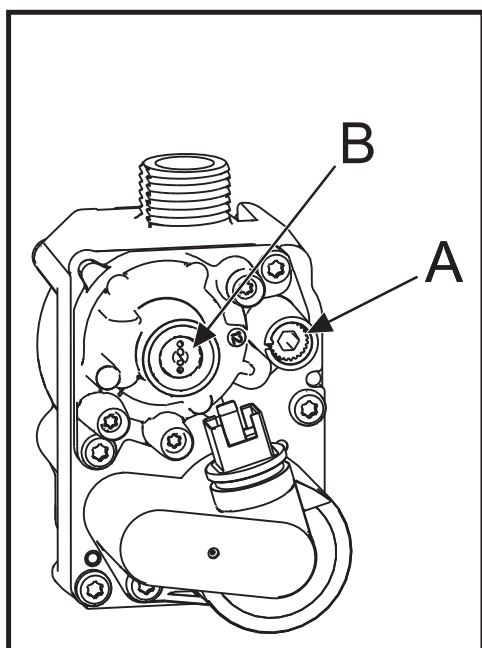

fig. 33 - Gas valve
3. Now adjust the **Throttle setting** (fig. 33 - screw **A**) until the CO2 is at the correct **SETTING LEVEL** (see table 4), confirm that the CO/CO2 ratio is within limits (clockwise to increase gas).
2. Now adjust the **offset pressure setting** (fig. 33 - cup **B**) until the CO2 is at the correct **SETTING LEVEL** (see table 5), confirm that the CO/CO2 ratio is within limits (clockwise to increase gas).